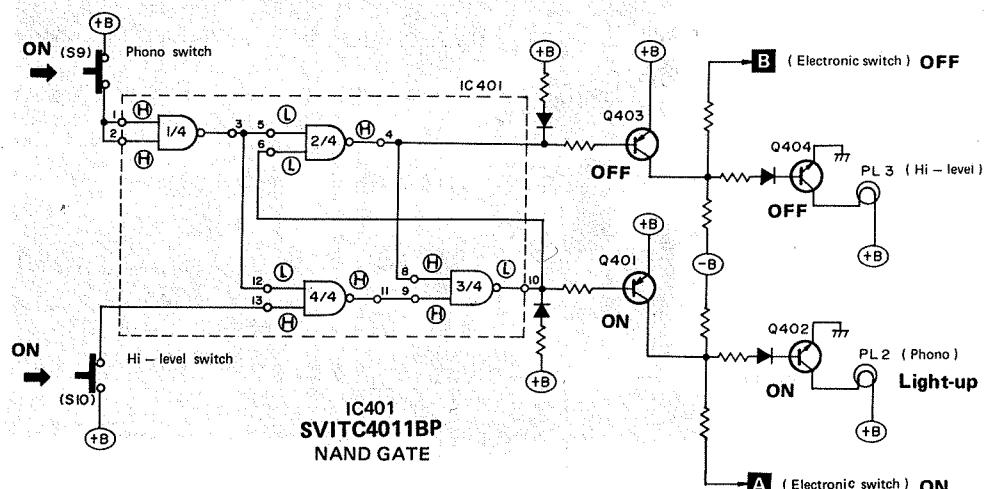

Fig. 3
- (3) When the "phono" and the "hi-level" buttons are pressed simultaneously, **A** switch turns ON, and **B**, OFF. (See Fig. 3.) That is, the operational priority is given to "phono".